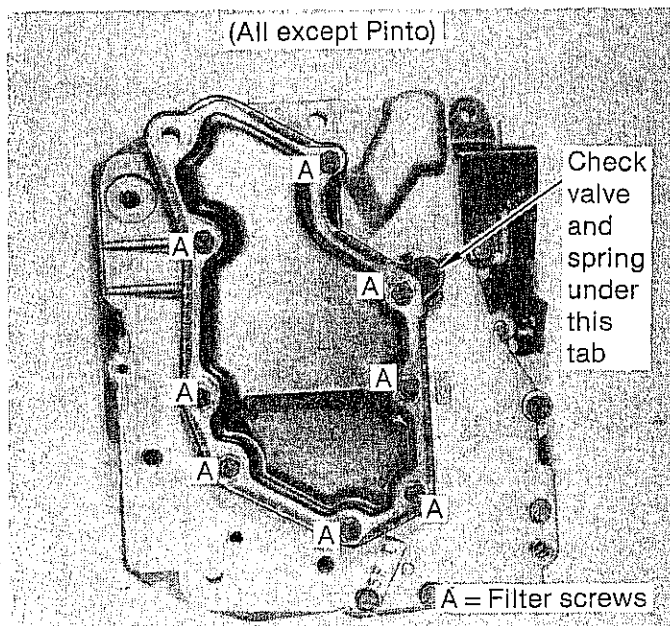

FIGURE 34
Note: FoMoCo has produced two styles of valve bodies. They will be noted “Pinto” and “All Except Pinto.” The “Pinto” style may be found in Pinto, Bobcat, and now some '79 and later Intermediate Cars. Check Fig. 34 for identification.
STEP 2. Turn the valve body over and remove the filter screws. (See Fig. 34 or 34A). Remove filter and set it